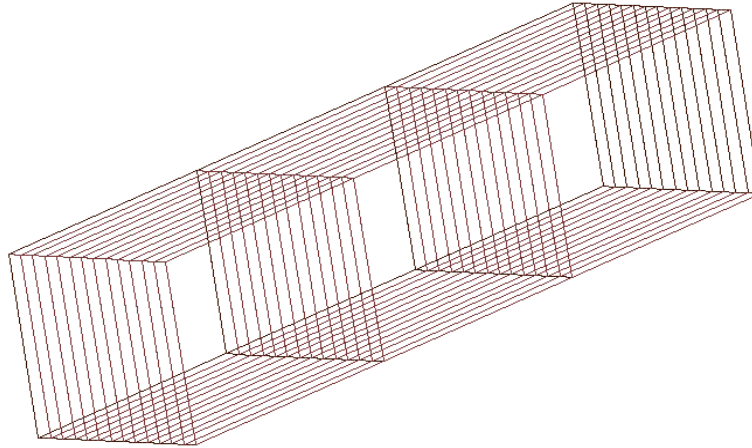

Figure 6: Cell's Common Part of Working Stuff (3×13) are installed into Cell's Work Stuff.
**mon Part of Working Stuff** (“pvHcalOutCellComPartWorkStuff”) *physical volumes* (Figure 6).